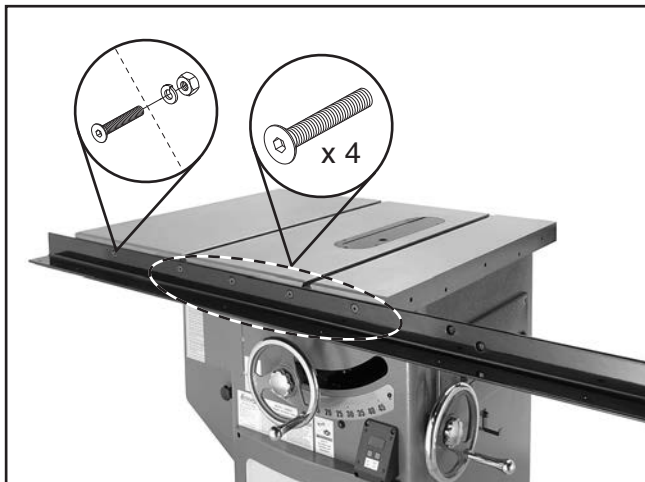

Figure 2. Front rail installed.
1. Fasten 91½" front rail onto table saw with (4) M8-1.25 x 25 flat head screws, as shown in **Figure 2**. Also, secure far left side of rail with (1) M8-1.25 x 25 flat head screw, 8mm lock washer, and M8-1.25 hex nut.